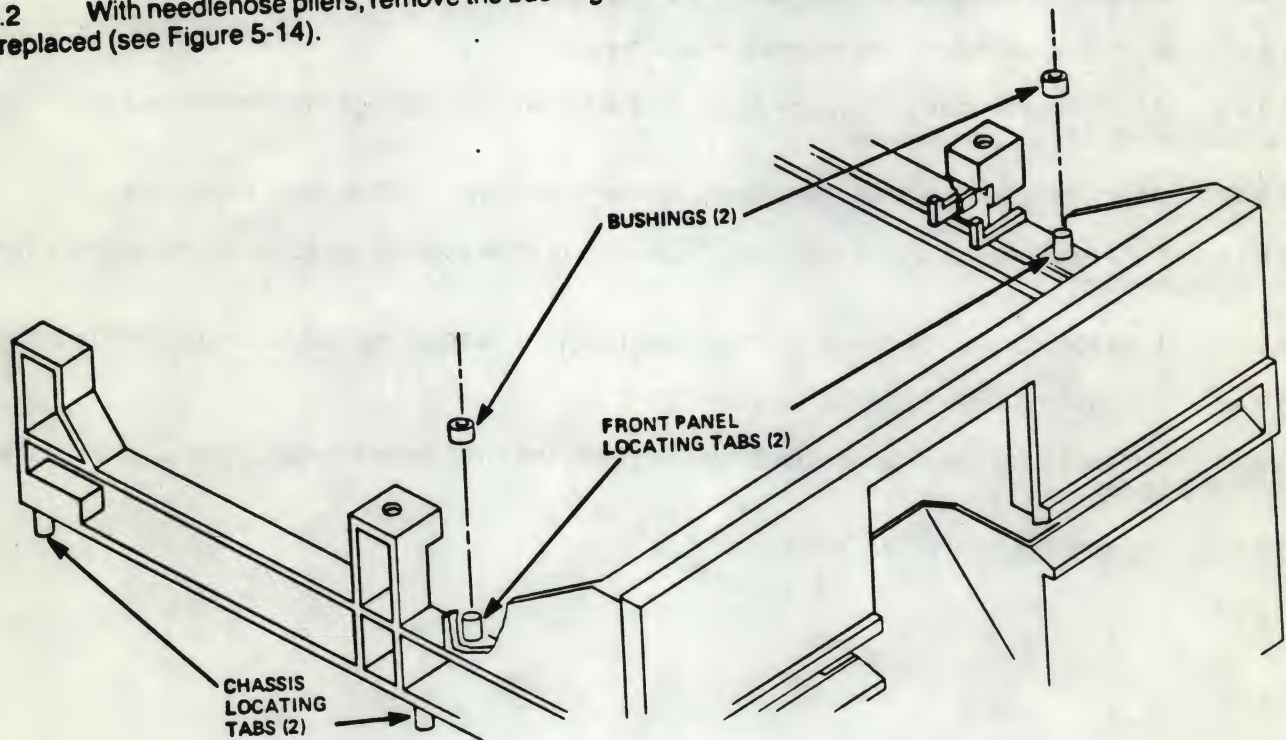

Figure 5-14
5.8.2 With needlenose pliers, remove the bushing from the front panel locating tab on the guide rail that is to be replaced (see Figure 5-14).
5.8.6 If one of the two (2) chassis locating tabs, located underneath the guide rail that has been removed, has broken off inside the chassis (see Figure 5-14), clean out the hole completely, using a one-eighth (1/8) inch drill or a soldering iron to melt the plastic, then remove the debris.